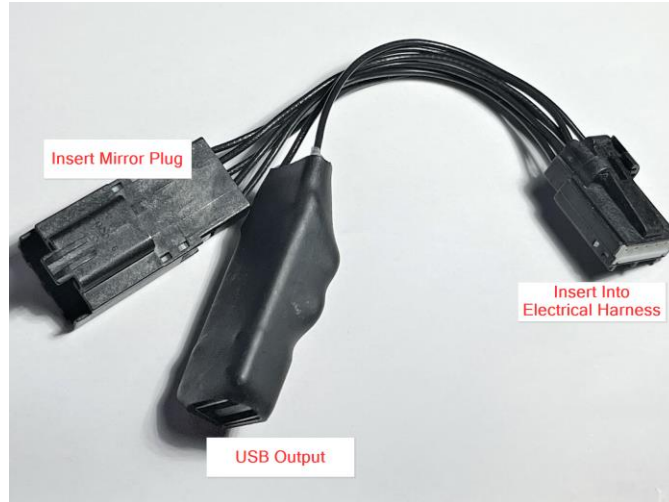

Figure 4: Schematic of Adapter
STEP 4: Connect the Dongar Dash Cam Power Adapter. Carefully connect the mirror into the female side of the adapter. Then, plug the male end into the Mach-E electrical harness (see Fig. 4)